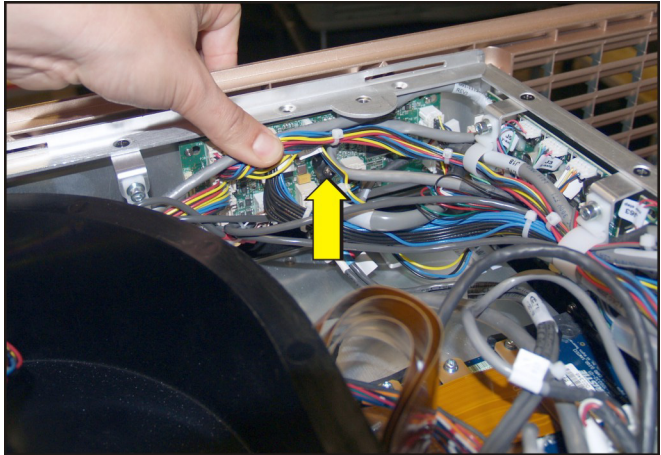

Figure 5-57 Remove EVB
3. Loosen the captive screw securing the EVB. Pull the captive screw up after it is loosened. (**Figure 5-57**)